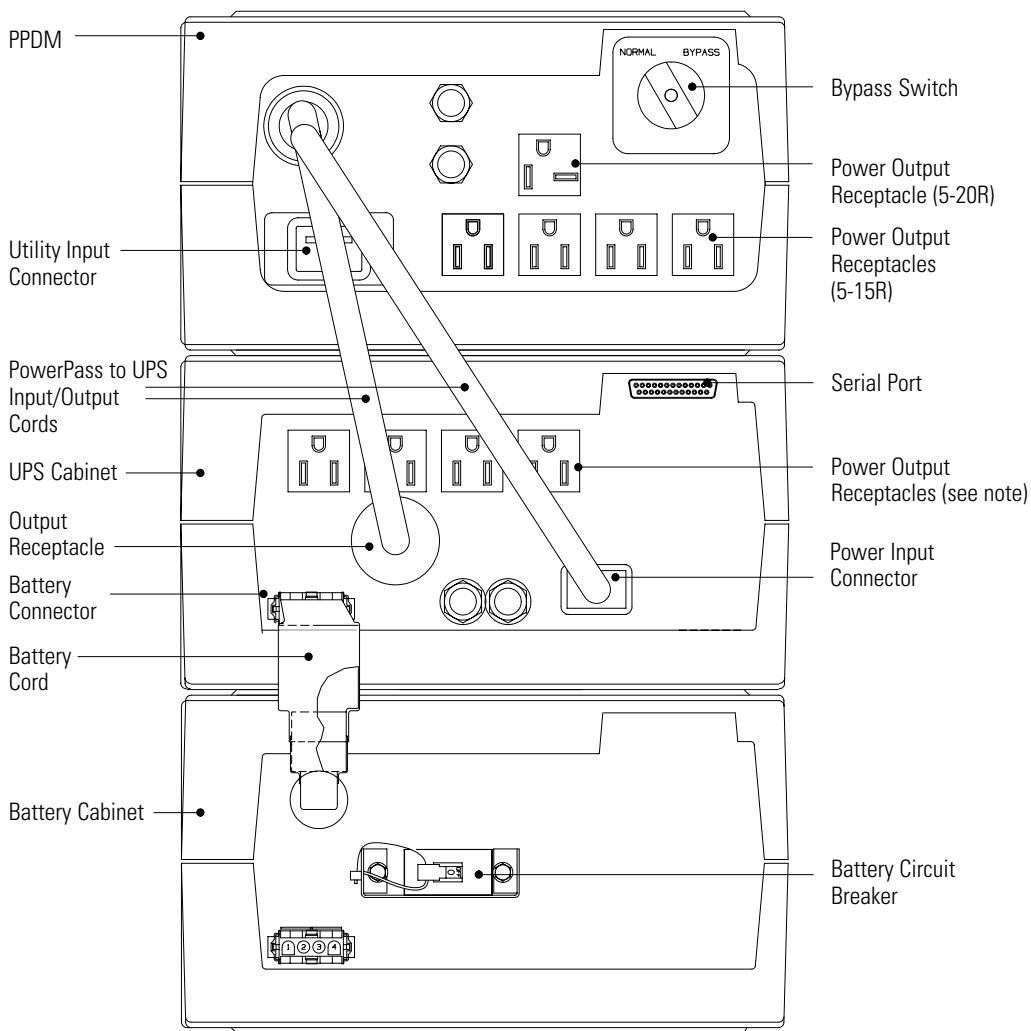

Figure 13. UPS with PPDM Rear Panel
2. Turn the Bypass switch on the PPDM to the BYPASS position (see Figure 13). The PPDM is now powering your equipment from utility power.
2. Switch the circuit breaker on all battery cabinets to the ON (I) position.
3. Plug the input and output cords of the PPDM into the power connectors on the UPS as shown in Figure 13.